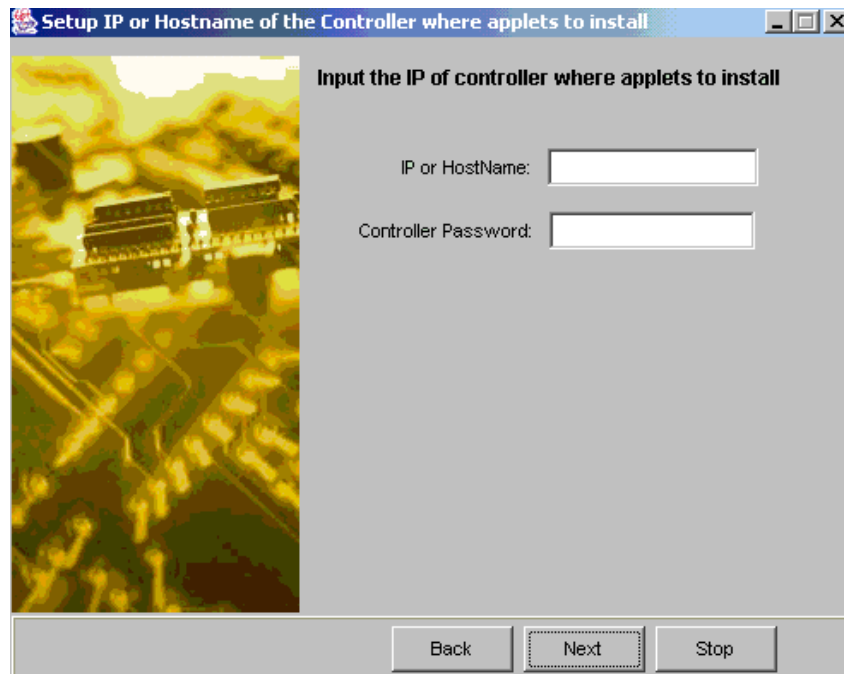

Figure 2-10: Input IP and Controller Password
Step 7. As shown in *Figure 2-10* above, enter the IP address or the host name of the controller/subsystem and the controller password in the respective fields. The default for controller/subsystem IP or password is blank. Preset IP and password should have been configured other configuration utilities before proceeding with RAIDWatch installation.
Step 10. If you wish to immediately access the RAIDWatch manager, then open a web browser and type in the IP address that you used in *Figure 2-10*.
where **www.xxx.yyy.zzz** is the IP address entered in *Figure 2-10*.